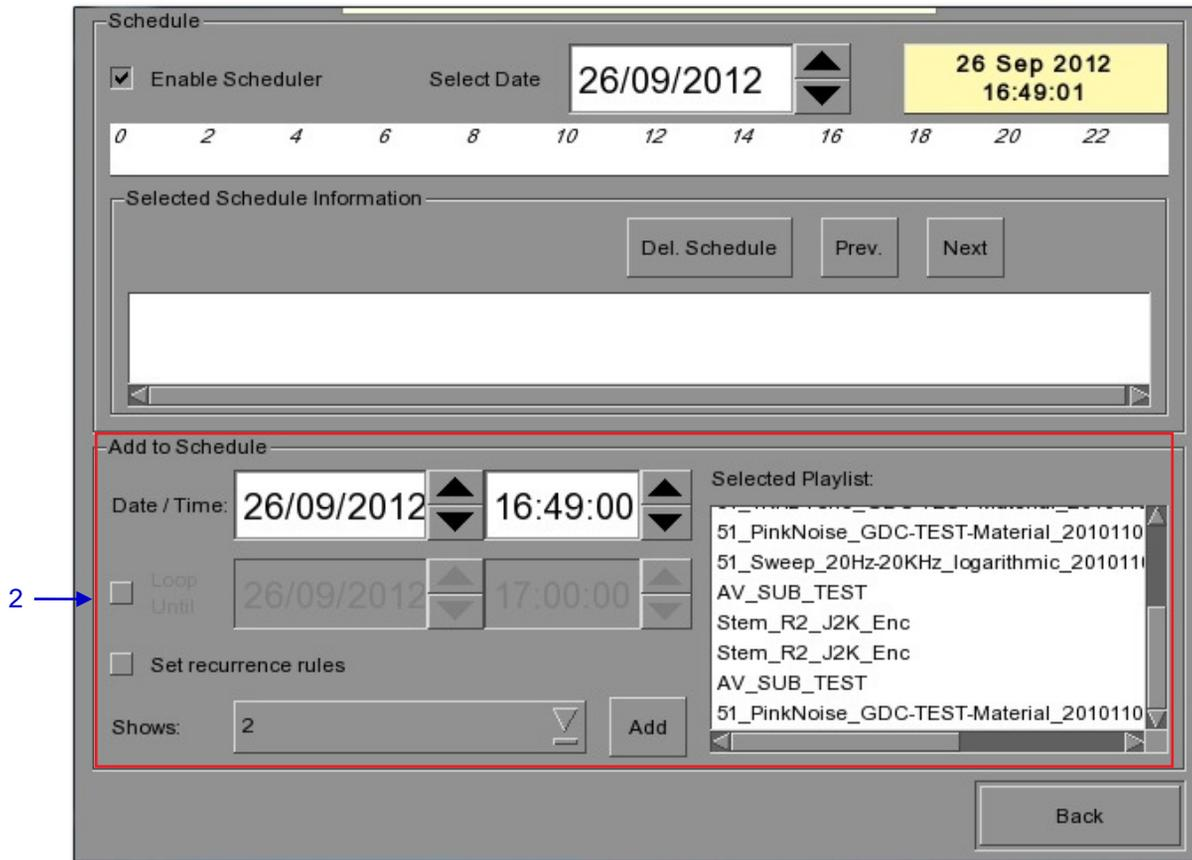

Figure 33 Scheduler menu.
- 1 On the Main menu, press **Scheduler**. A new window opens as seen in **Figure 33**.